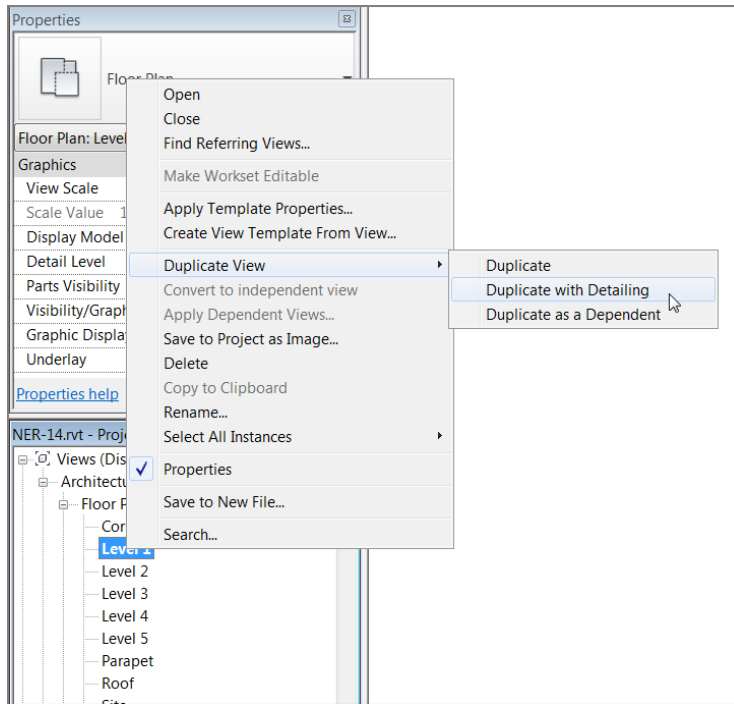

FIGURE 13.1: Right-clicking the Level 1 floor plan in the Project Browser
2. Select Duplicate View ➤ Duplicate With Detailing, as shown in Figure 13.1.